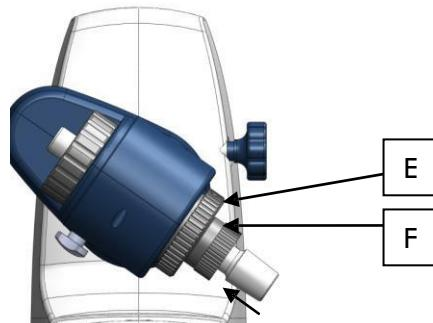

Figure 9
-Open the locking device (F) by unscrewing the 4 screws located on the main unit by turning counterclockwise
-Open the locking device on the drive head by turning it 60° counter clockwise (E), (Figure 9)